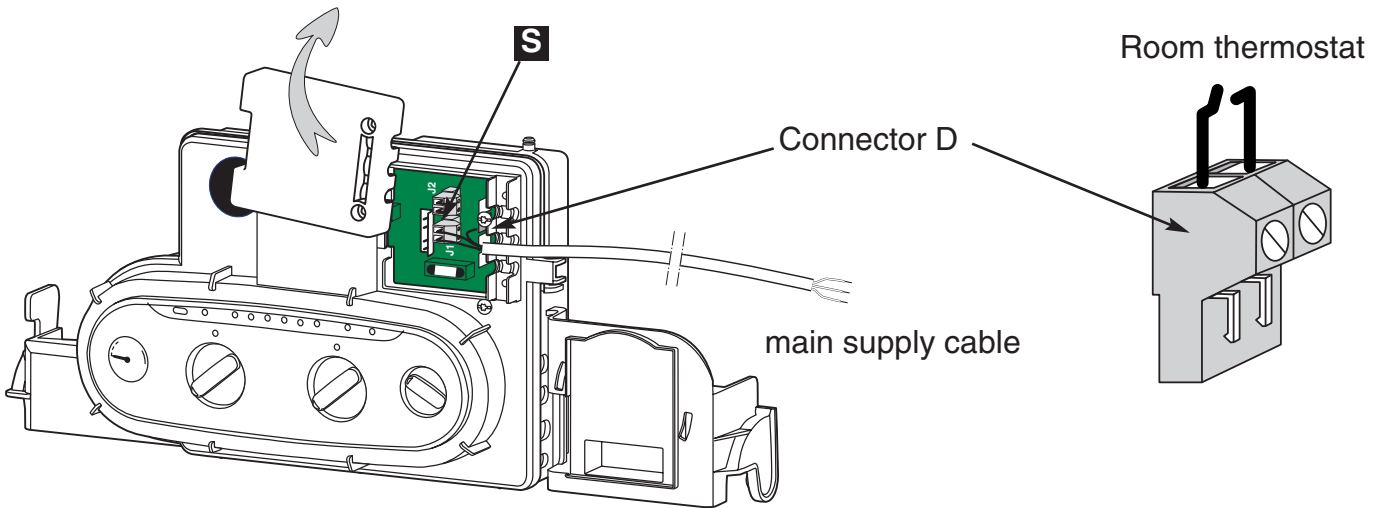

Fig. 11
- Function with room thermostat remove bridge **S**, room thermostat connected as shown on connector **D** (fig. 11).